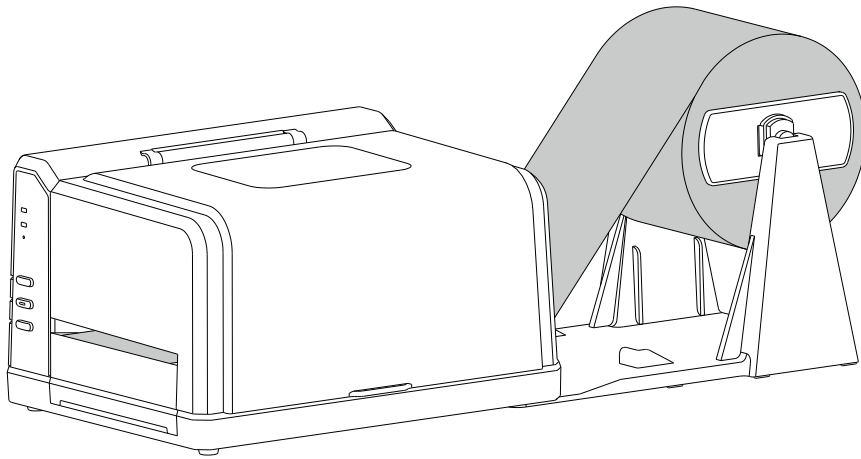

Figure 2-13 Media loaded
9. Press down the Handle of the Printhead to lock the Printhead, then close the right cover. See Figure 2-13.